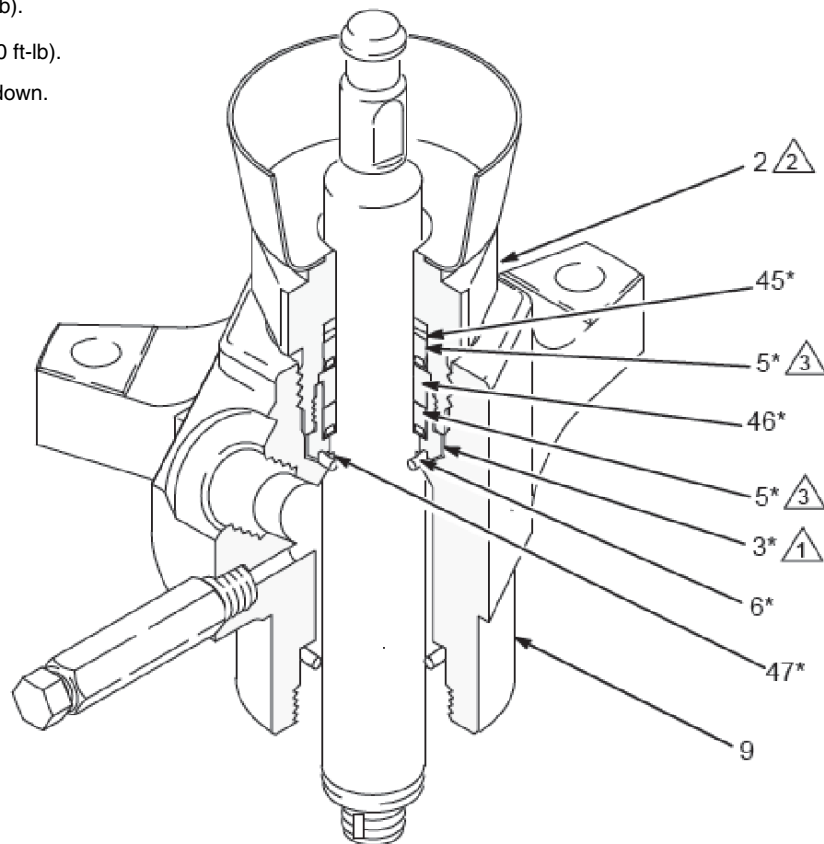

Fig. 17
2. See Fig. 17. Unscrew the packing nut (2) using a pipe wrench. Remove the o-ring (6) and washer (47) from the bottom of the packing housing (3) or from the outlet housing (9).
3. Place the flats of the packing nut (2) in a vise. Unscrew the packing housing (3) and discard it and the packings. Remove the washer (46), seal (5), and backup washer (45) from the packing nut.
4. The throat repair kit is preassembled. Screw the kit into the packing nut (2), making sure that the backup washer (45\*), seal (5\*), and washer (46\*) are properly positioned on top of the packing housing (3\*), with the lips of the seal facing down. Torque the packing housing (3\*) to 97–106 N.m (71–78 ft-lb). See Fig. 17.
6. Screw the packing nut (2) into the outlet housing (9). Torque to 190–217 N.m (140–160 ft-lb).